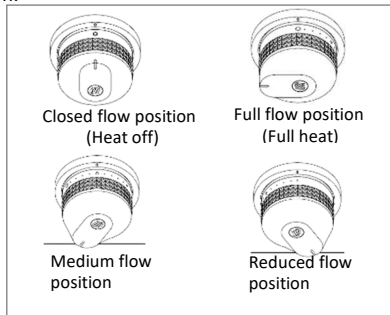

Figure 2: Adjusting the control lever
6. Then adjust the height of the flame by turning the control lever(s) from full flow (large circle) to reduced flow (small circle) (See Figure 2).